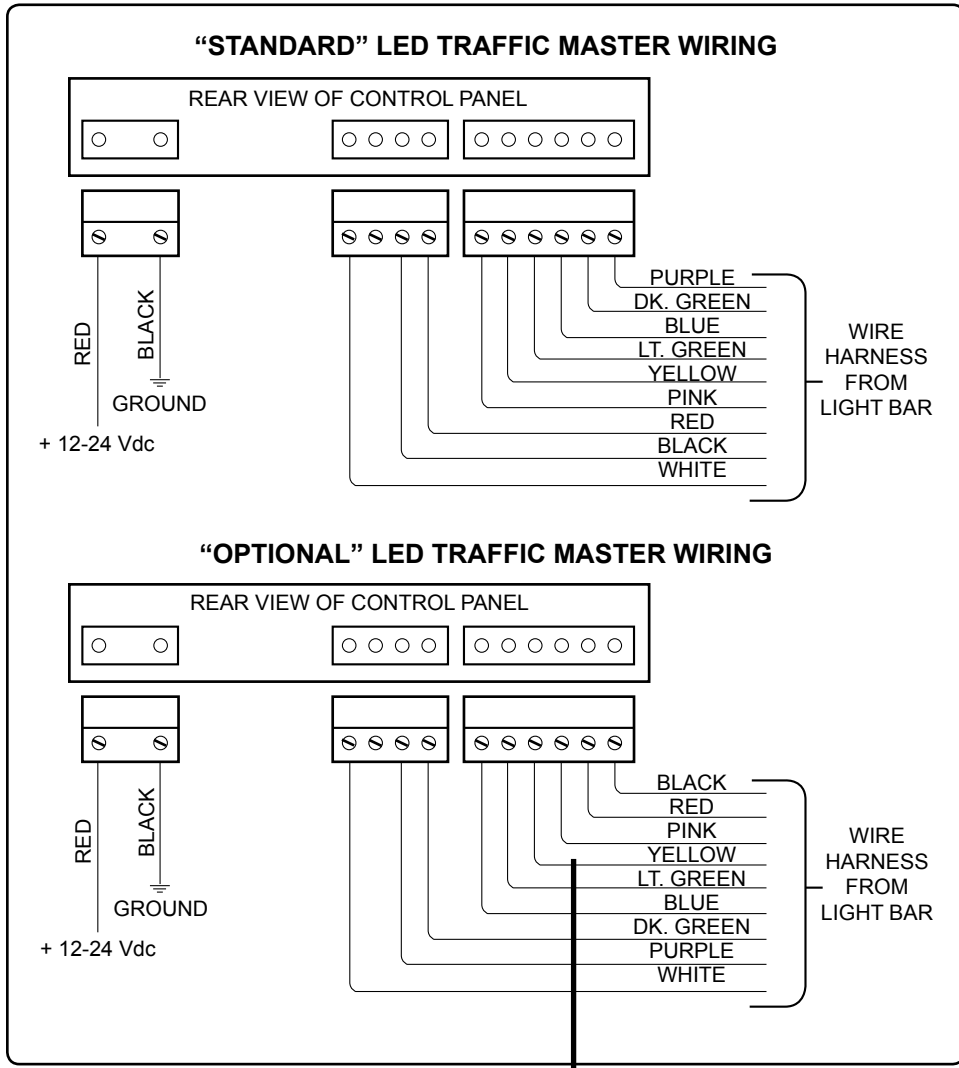

Figure 5. Standard and Optional Wiring Schematics
- Attach the power and ground wire to the appropriate pins in the 2 pin socket housing as shown in Figure 5.
- Attach the wires from the 9 wire harness into the appropriate 6 & 4 pin connectors as shown in Figure 5. BE SURE TO PLACE THE PINS IN THE PROPER SEQUENCE!!!